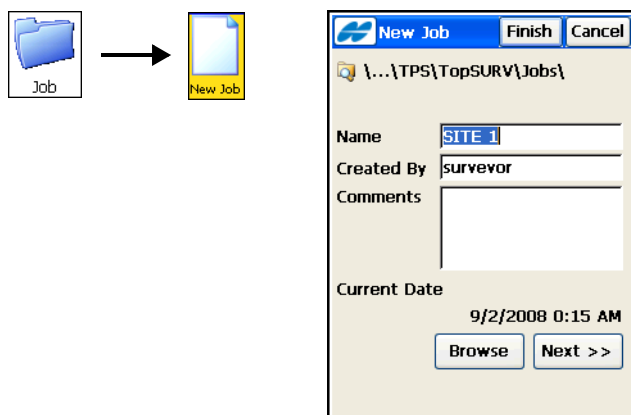

Figure 4-2. New Job
2. To create a new job, tap **Job ► New Job** or tap the **New** button on the **Open Job** screen during initial startup (see Figure 2-1 on page 2-1). The **New Job** screen displays (see Figure 4-2 on page 4-2). Enter the Name of the job and corresponding information (that is, the name of the surveyor and any necessary comments). The date is stored automatically. Tap **Next** to move to the next screen. At any stage, select the **Finish** button to create a new job. See the following sections to create a new job for your mode of survey.